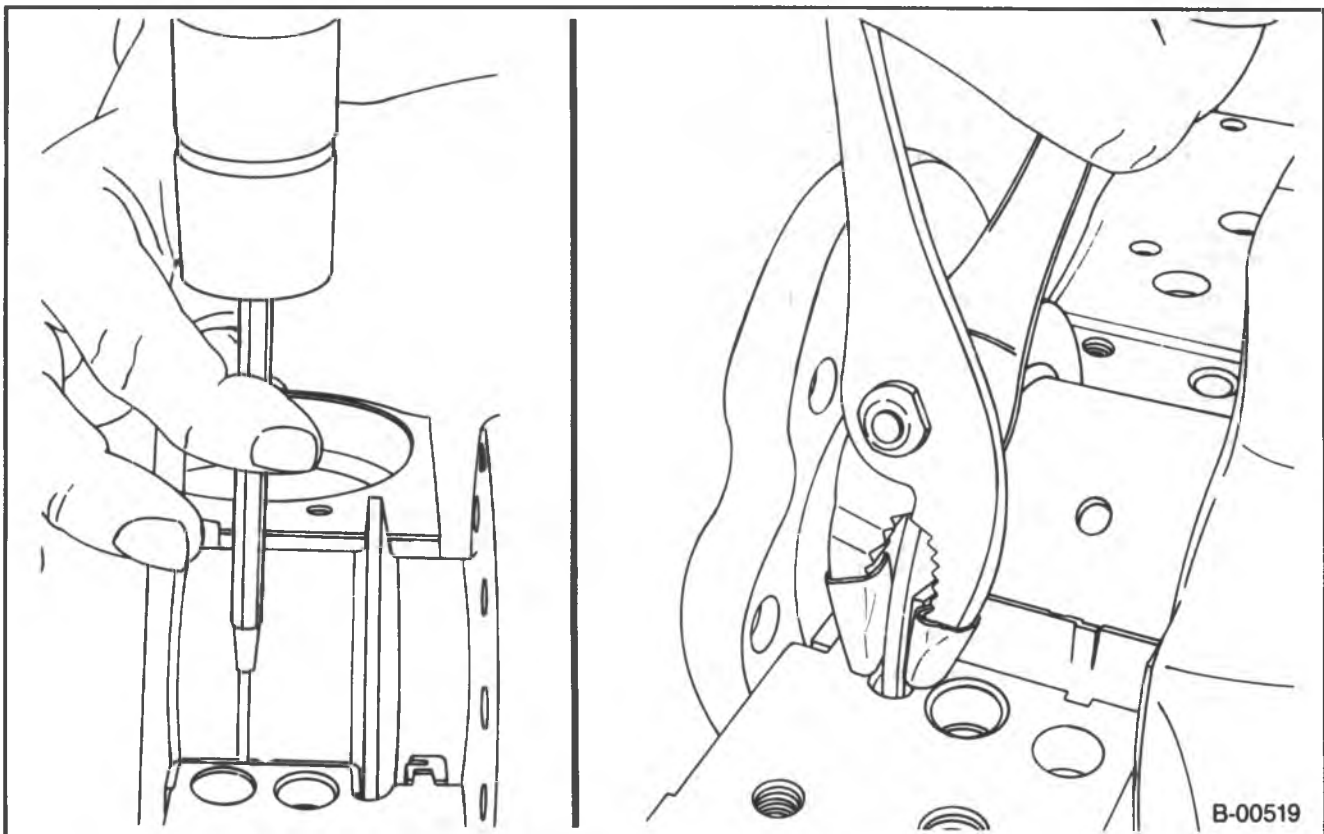

Figure 35 — Removing The Upper Rear Main Bearing Insert
➔ Remove or Disconnect (Figures 35 and 36)
- Use a small brass drift and hammer. Tap on the insert, on the side opposite the bearing tang, until the insert rotates out of position (figure 35).
- Use a pair of pliers with the jaws taped to prevent damage to the crankshaft. Clamp the insert to the crankshaft flange (figure 35). Rotate the crankshaft to remove the bearing insert.
- Use pliers with taped jaws to clamp the bearing to the crankshaft as shown in figure 35. Rotate the crankshaft to "roll" the insert into the block. Then seat the insert using a small drift and hammer.